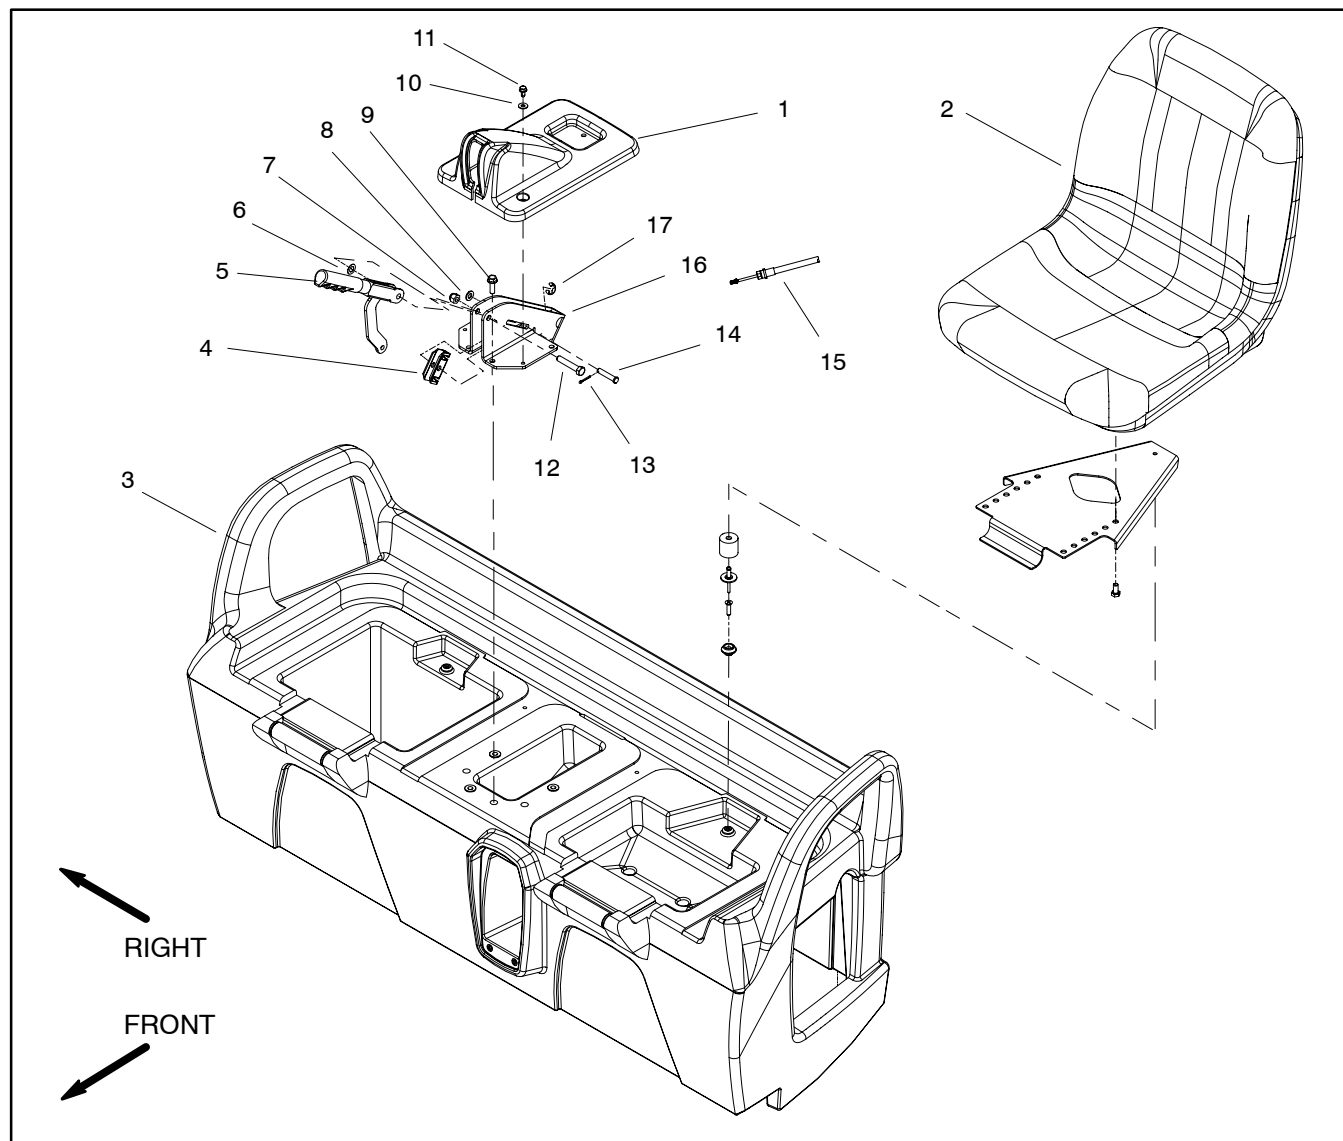

Figure 21
Disassembly (Fig. 21)
5. Remove four (4) flange head screws that secure parking brake support to seat base.
7. Remove brake cables from parking brake support and cable equalizer bracket using Figure 21 as a guide.
Assembly (Fig. 21)
1. Secure brake cables to parking brake support and cable equalizer bracket using Figure 21 as a guide.
3. Secure parking brake support to seat base with four (4) flange head screws.